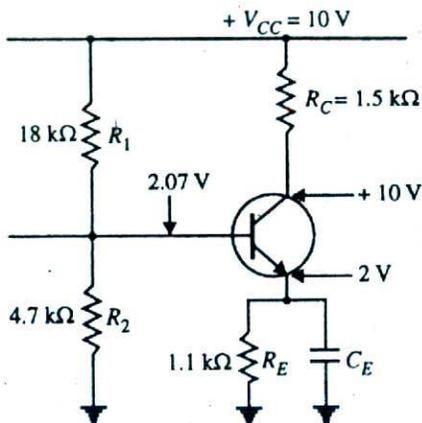

Fig. 11.31
**Example 11.26.** What fault is indicated in Fig. 11.31? Explain your answer with reasons.